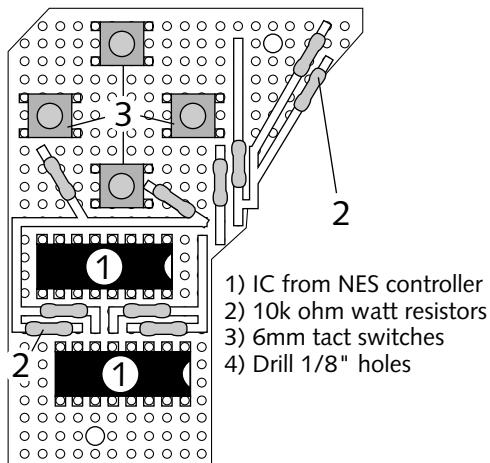

FIGURE 10-23: Placement of components on the front of the left PC board.
1. Place components on the front (non-copper side) of the board, as shown in Figure 10-23. Solder every lead on the tact switches and ICs to the copper pads on the back of the boards.